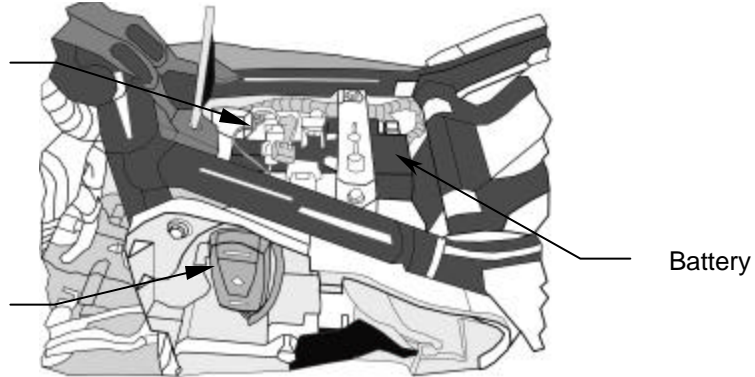

FIGURE 1
1. Remove both seats and fuel tank console cover. Remove the one front and two rear bolts securing the fuel tank. To enable raising the fuel tank, disconnect the wire connectors mounted on top of the battery behind the fuel tank, they are connected with two harnesses running under the left side of the fuel tank, (Fig. 1.)
3. Position the Fi2000R in the left hand storage area and feed the wire harness through the oval hole in the back of this case, (Fig. 1.) Next, feed the harness through the frame opening behind the rear cylinder and follow the bike's wire harness towards the front of the engine.
5. Zip tie the Fi2000R along the bike's main harness as shown in, (Fig. 3.) Attach the black ground wire from the Fi2000R to the negative post of the battery. Secure the Fi2000R body to the inside of the storage box with the Velcro strip, (Fig. 1.)